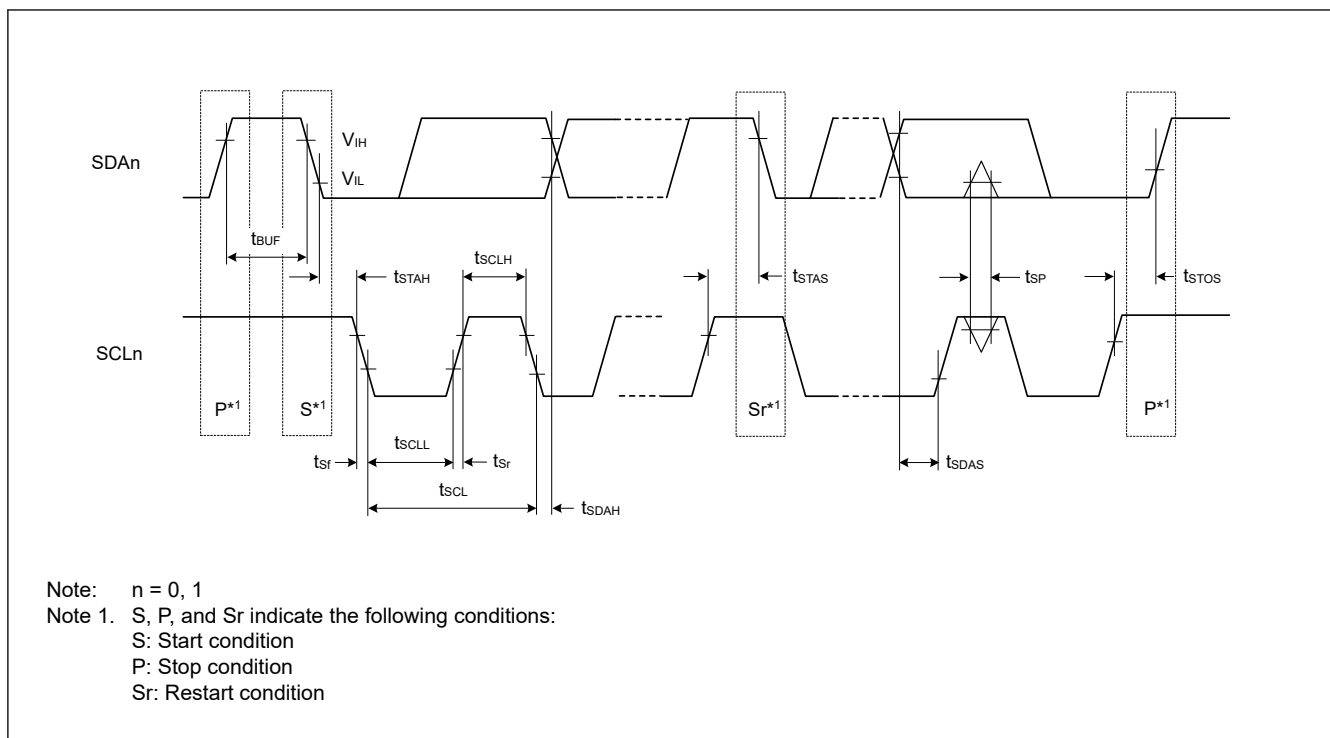

Figure 47.43 I²C bus interface input/output timing
| IIC(Standard mode,SMBus)ICFER.FMPE = 0 | SCL input cycle time                                             | $t_{SCL}$  | $6 (12) \times t_{IICcyc} + 1300$                   | —                         | ns   | Figure 47.43    |
| IIC(Fast mode) | SCL input cycle time                                             | $t_{SCL}$  | $6 (12) \times t_{IICcyc} + 600$                       | —                         | ns   | Figure 47.43    |
| IIC(Fast-mode+)ICFER.FMPE = 1 | SCL input cycle time                                             | $t_{SCL}$  | $6 (12) \times t_{IICcyc} + 240$                    | —                         | ns<a href="#">Figure 47.43</a> |